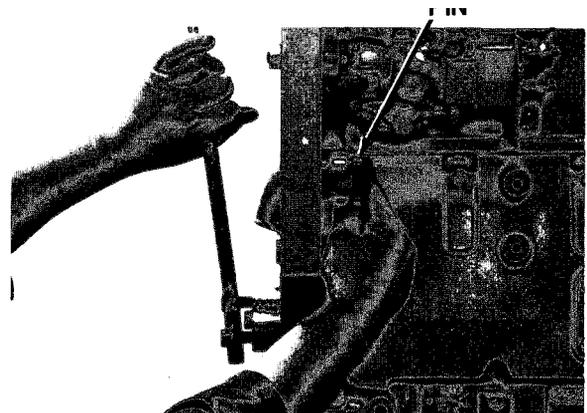

Figure 7-2
5. Barring engine slowly, push on engine timing pin (Figure 7-2) until pin engages.